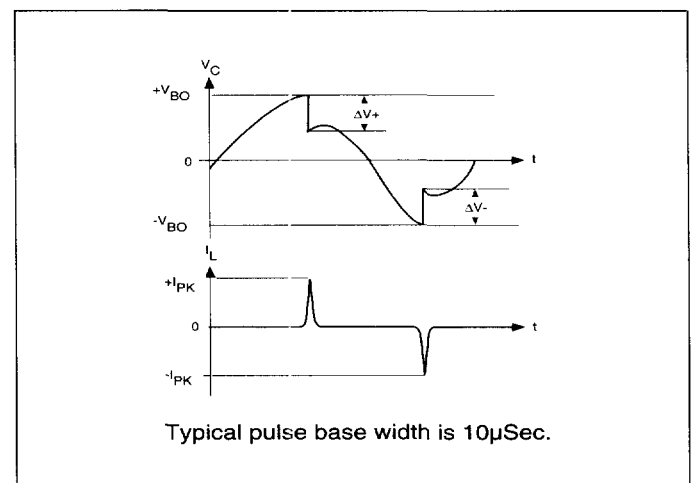
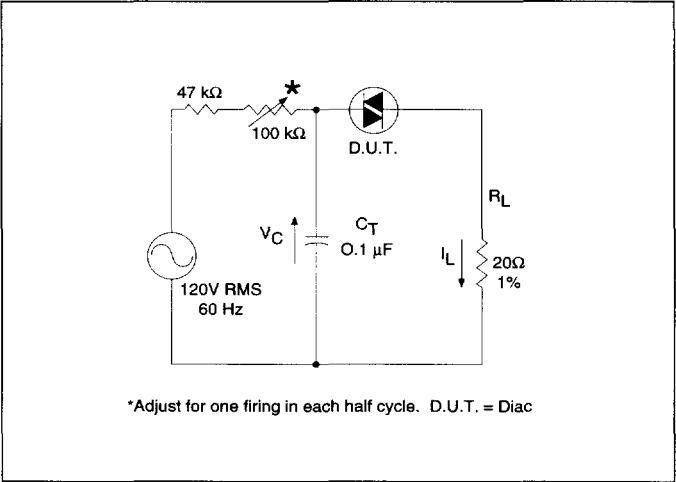

Figure 8.4 Test Circuit Waveforms (See Figure 8.5.)
Figure 8.5 Circuit Used to Measure Diac Characteristics
- See Figures 8.4 and 8.5 for Test Circuit and waveforms.
- Typical switching time is 900 nano-seconds measured at I_{PK} (see Figure 8.4) across a 20Ω resistor (see Figure 8.5). Switching time defined as rise time of I_{PK} between the 10% to 90% points.
(See Figure 8.4.)